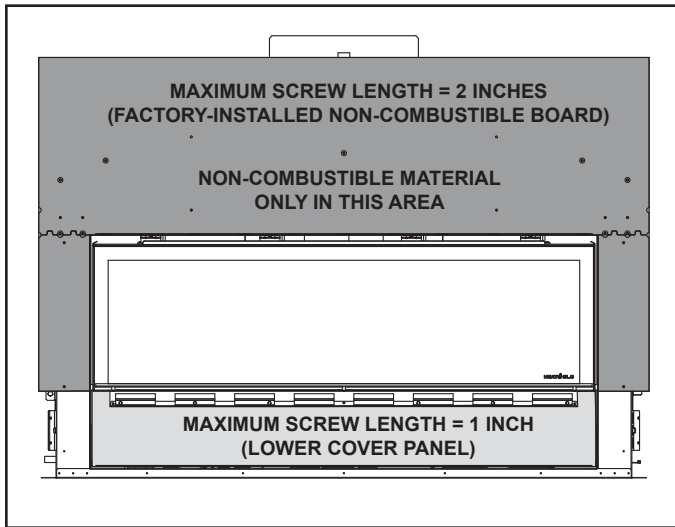

Figure 10.1 Screw Length Requirements
When finishing the wall around the fireplace, it is critical that wall sheathing be fastened properly. Wall sheathing fasteners, such as screws or nails, are not permitted in some locations. See Figure 10.1.
It is acceptable to pre-drill holes and use self-tapped screws in the factory-installed non-combustible board which may be used to lathe (a backer for tile, marble, etc.). Screws being installed through the factory-installed non-combustible board should be self-tapping type with a maximum length of 2 inches. See Figure 10.1.
When installing finish material on the lower cover panel, DO NOT drill or install screws longer than one inch. Screws longer than one inch could penetrate the lower cover panel causing damage to components or penetrate the gas line. One inch screws are included in the manual bag assembly that are intended for use when attaching finishing material to lower cover panel. See Figure 10.1.
2. Install non-combustible finishing material to the top ledge of the bottom access panel, covering the eight rectangle holes in the access panel. See Figure 10.1 for screw length requirements.
3. Install non-combustible finishing material up to the outer edges of the trim ring. See Figure 10.1 for screw length requirements.